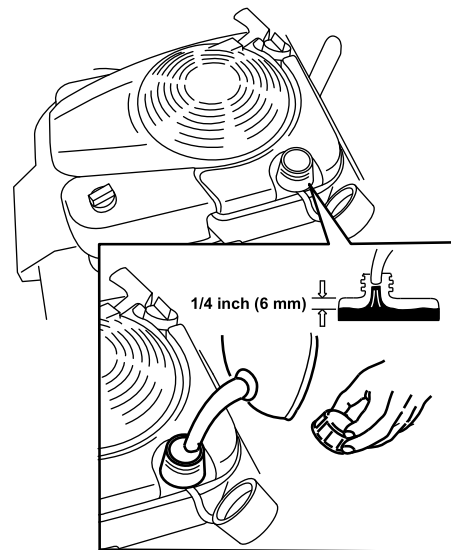

Figure 11
1. Clean around the fuel tank cap, and remove the cap from the tank (Figure 11).
2. Fill the fuel tank, leaving at least 1/4 inch (6 mm) from the bottom of the neck empty to allow the gasoline room to expand (Figure 11).